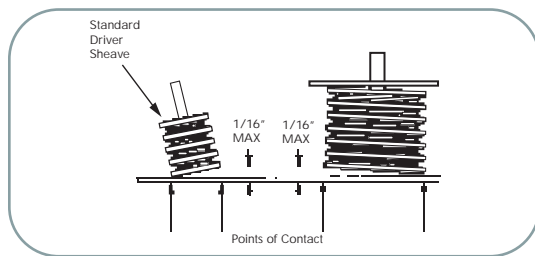
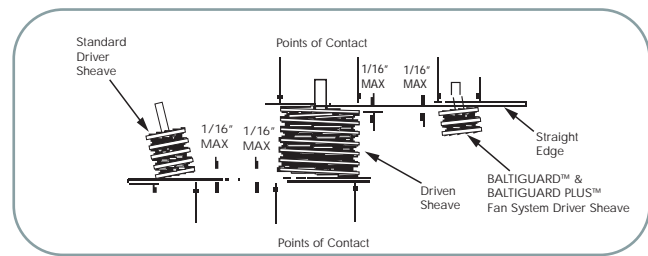

Figure 5a - Standard Drive Alignment
Figure 5b - BALTI GUARD™ Fan System Drive Alignment
- Place a straight edge across the driver and the driven sheaves as shown in Figure 5a for standard drives and in Figure 5b for the BALTI GUARD™ Fan System or the BALTI GUARD PLUS™ Fan System.
- The straight edge should contact all four points as shown in Figure 5a indicating proper drive alignment.